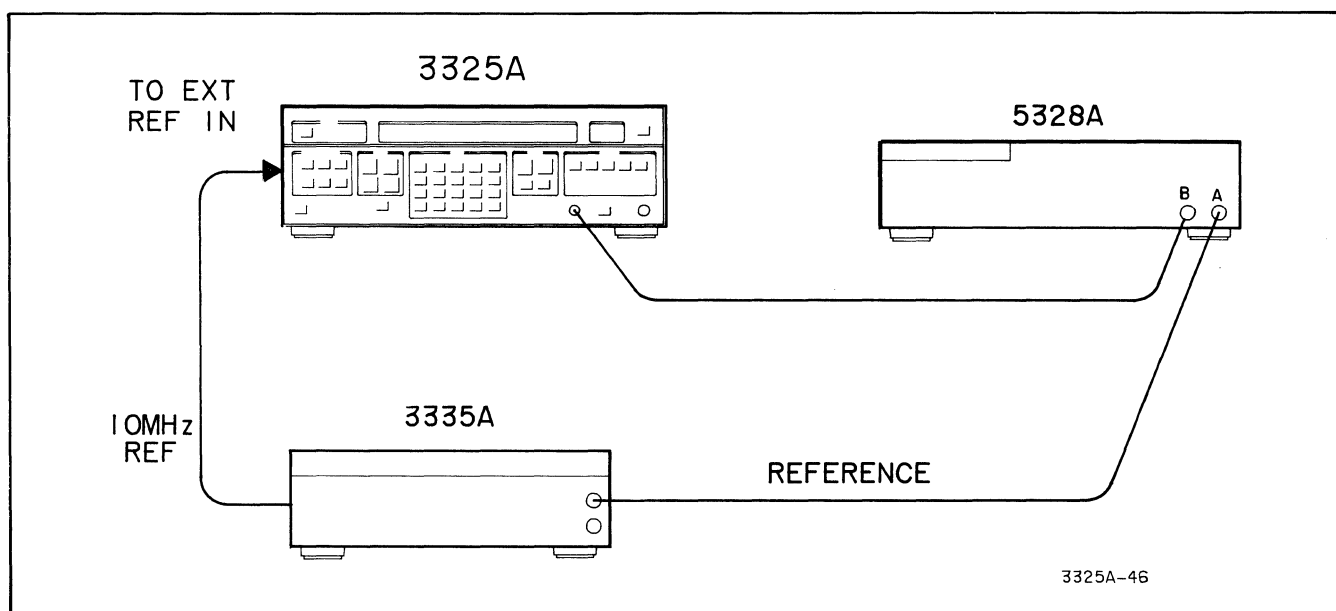

Figure 4-8. Phase Increment Accuracy.
a. Connect the equipment as shown in Figure 4-8.